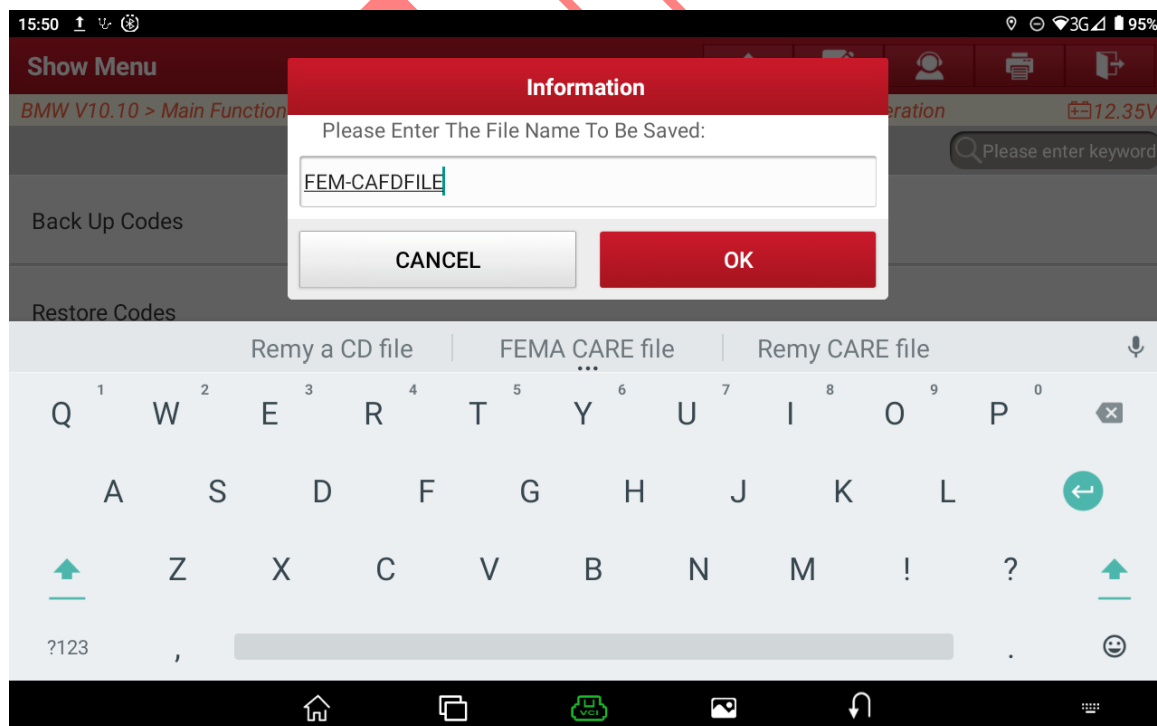

Figure 10
10. Enter the code file name and save it locally, as shown in Figure 10.